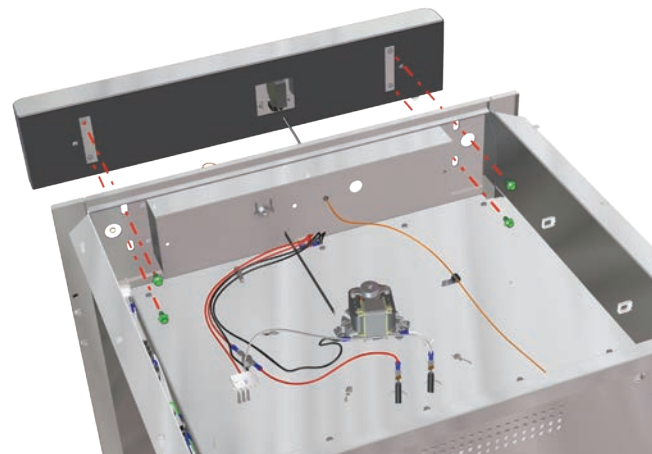

Figure 32: Remove Header Assembly Box
4. To remove the Header Assembly Box, unscrew 4 hex locking bolts from the header assembly box mounting plates and remove the header assembly box. (Figure 32)